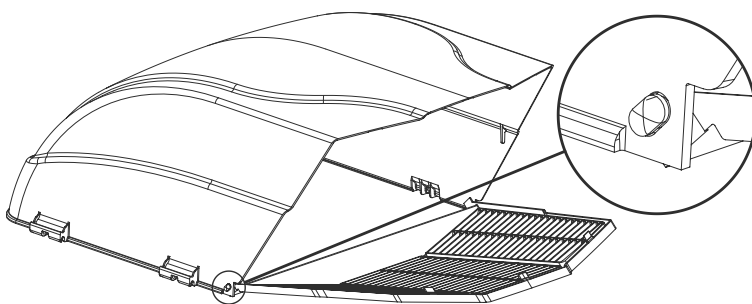

Figure 1
2. Lay Louver section behind opening of vent cover body with tabs up as shown in Figure 1.
1. Based on your roof vent location, choose which side of the MAXxAIR II to install the hinged brackets. Install as shown in Fig. 1 using the #10-32 screws and locknuts provided.